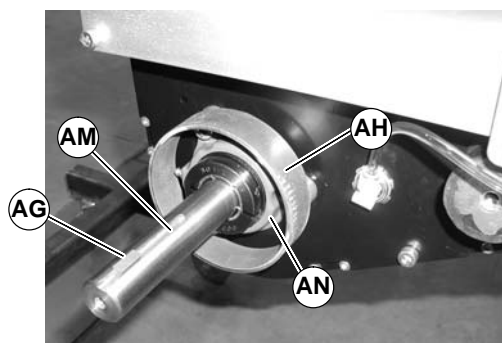
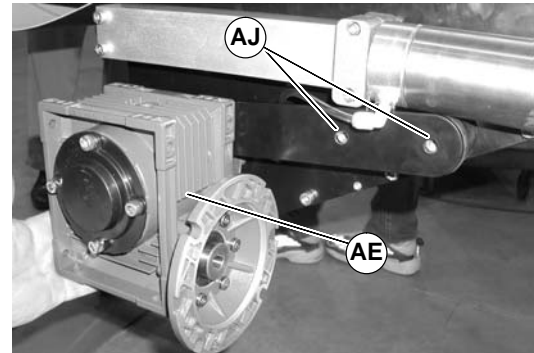

Figure 16
Figure 18
3. Install key (AG of Figure 16) on drive shaft (AM). Install cover (AH) over bearing housing (AN)
5. Slide gearmotor (AE of Figure 18) on to drive shaft (AM of Figure 16). Tighten mounting screws (AJ) to 200 in-lbs (22.5 N-m).